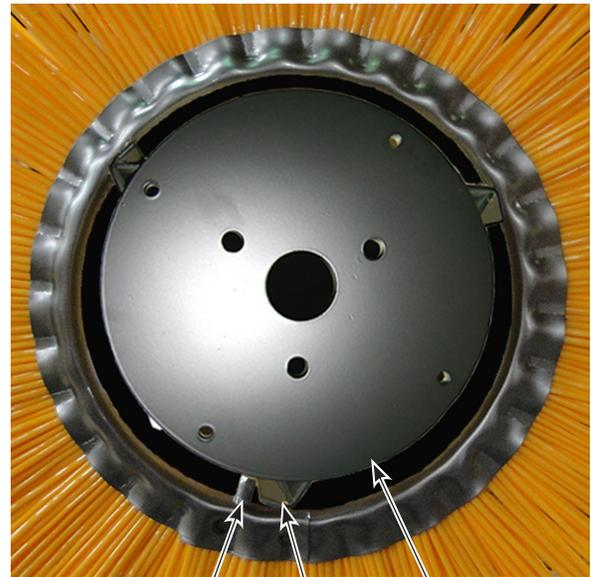

Figure 4
Broom head may be either pitched down too far forward or up too far backward on either side swing arm, giving us the impression of a bowtie. The swing frame bolts must be adjusted either out or in, either separately or together, to achieve a balanced pattern. See Figure 4.
**NOTE:** Brush surface contact during initial operation will set all wafer drive pins up against the core stop flanges. See Figure 4.